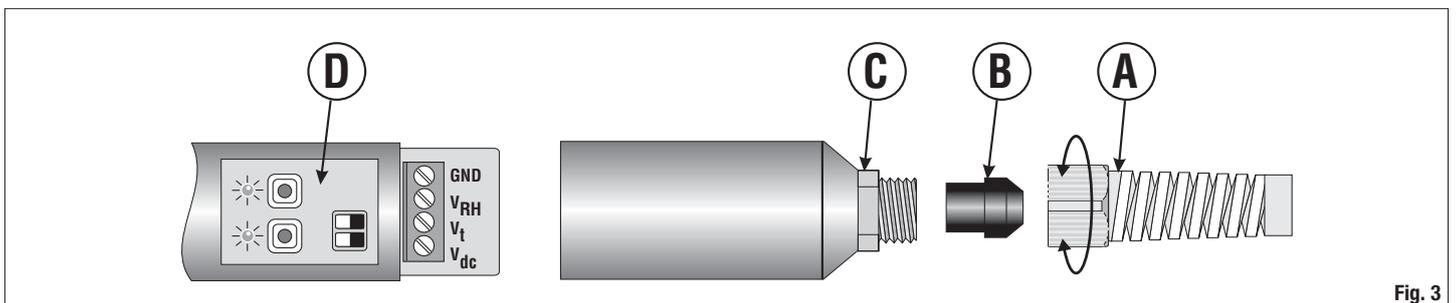

Fig. 3
Follow these procedures to access the transmitter terminal board (see fig.3): Unscrew grommet "A", take off rubber bulb "B" and unscrew bottom "C". Insert the cable through A, B and C elements and connect it to the terminal board. Hold the cable firmly while screwing grommet "A" to avoid twisting.
- To access the panel board, unscrew grommet "A" (see fig. 3) and hold the cable firmly to avoid twisting. Take off the rubber bulb and unscrew the bottom of the instrument.
- To access the panel board, unscrew grommet "A" (see figure 3) and hold the cable firmly to avoid twisting. Take the rubber bulb off and unscrew the bottom of the instrument.